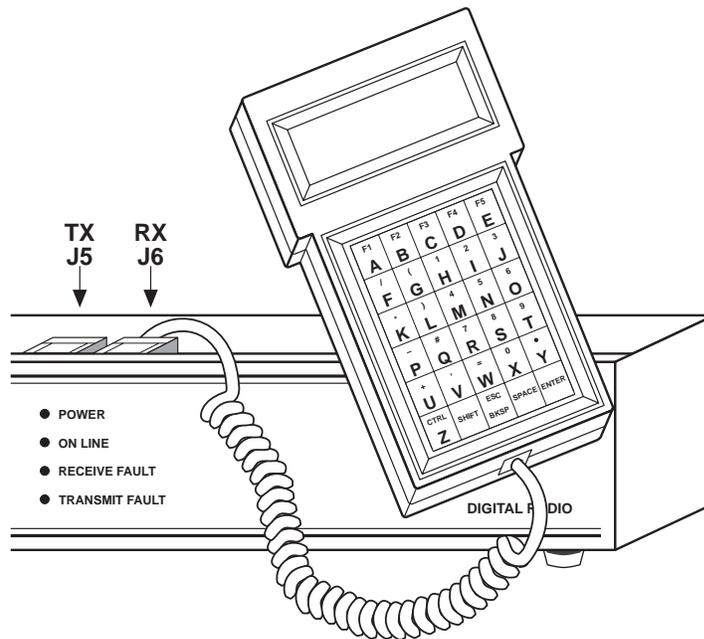

Figure 15. Hand-Held Terminal Connections
2. Connect the HHT cable into either J5 (Transmitter) or J6 (Receiver) on the Front Panel Logic Board depending on which frequency is to be reviewed. See Figure 15 for reference.
3. Connect the HHT cable into either J5 (Transmitter) or J6 (Receiver) on the Front Panel Logic Assembly depending on which frequency is to be changed. See Figure 15 for reference.